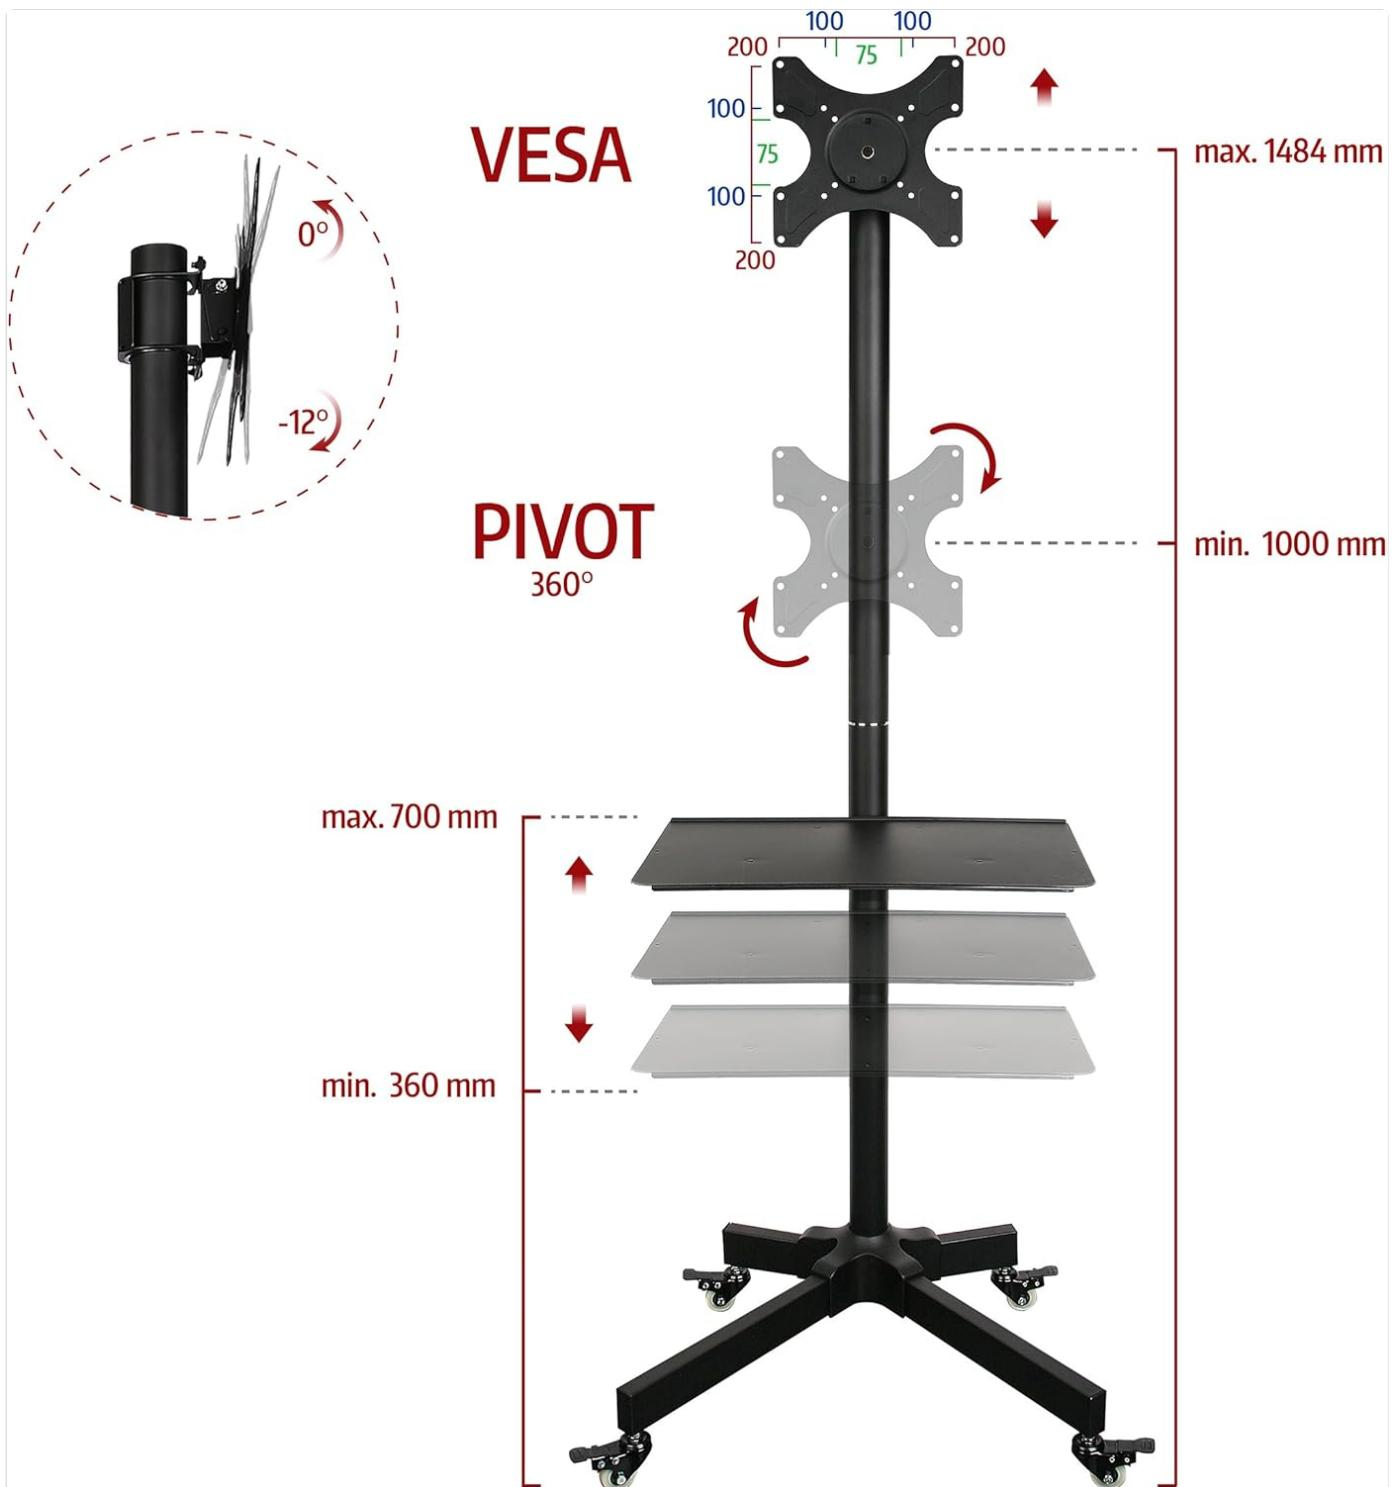

Figure 4.2: Diagram detailing VESA mounting patterns, 360° pivot, and adjustable height ranges for the TV and shelf.
- **Adjusting TV Height:** The TV mounting bracket can be adjusted vertically along the main column. Loosen the securing mechanism, slide the TV to the desired height, and re-tighten the mechanism. Refer to Figure 4.2 for height ranges.